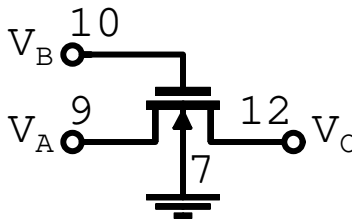

Figure 9: NMOS pass transistor gate
4. Figures 9 and 10 indicate the connections that need to be made with CD4007UB. Write the pin numbers for parts 3 and 4 of this experiment.
1. Build the circuit shown in Figure 9. The numbers on the NMOS terminals correspond to the pins of the CD4007 IC.